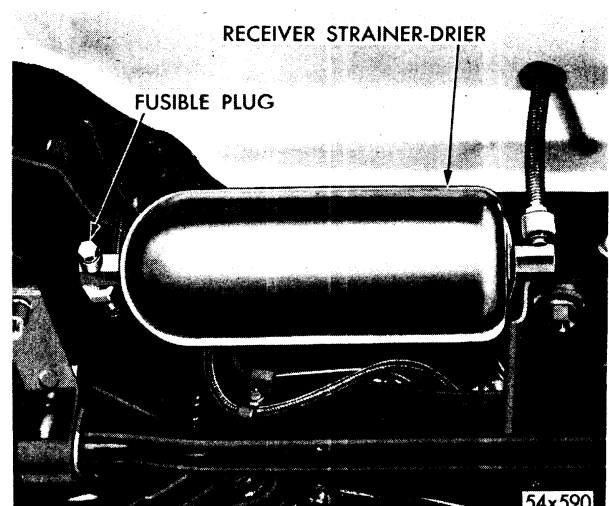

Fig. 23—Receiver Strainer-Drier Installed
- (1) Position and install four attaching bolts in condenser brackets to radiator support. Tighten bolts to 20 foot-pounds torque.
- (2) Remove caps from tubes (and condenser if so equipped).
- (3) Connect condenser to receive tube flared connection.
- (4) Connect discharge and by-pass tubes to discharge valve.
- (5) Charge system with partial charge and test for leaks as outlined in Paragraphs 24 and 27.
- (6) Correct any leaks, and evacuate system. Charge with four pounds of Freon 12 as outlined in Paragraph 27. Test system operation.
**44. RECEIVER FUSIBLE PLUG REPLACEMENT (See Fig. 23)**